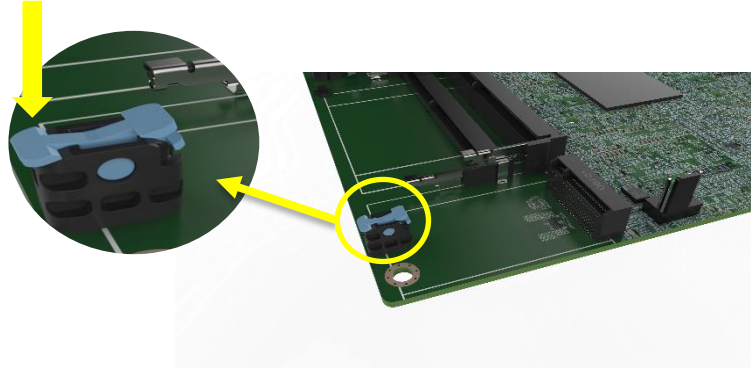

Figure 4-3: Press the Retainer
Step 1: Press the retainer down as shown below. (See **Figure 4-3**)
Step 5: If you want to remove the M.2 module, you should press the retainer down as described in Step 1 to release the M.2 module. (See **Figure 4-3**)